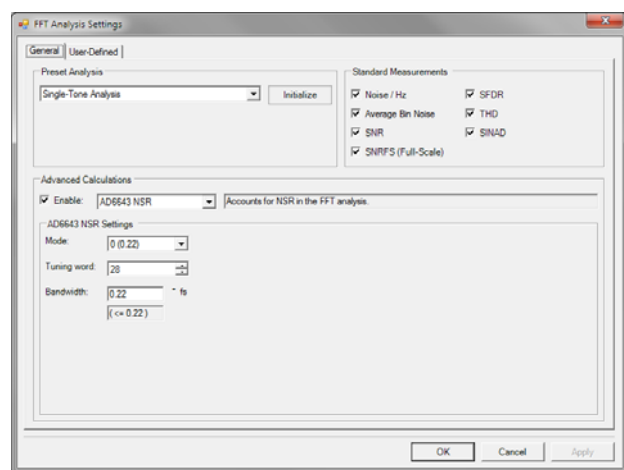

Figure 21. VisualAnalog, FFT Analysis Settings for AD6643
- Configure the settings in the FFT analysis to match the settings selected for the NSR in the SPI controller (see Figure 21).